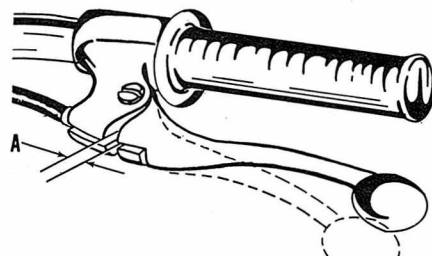
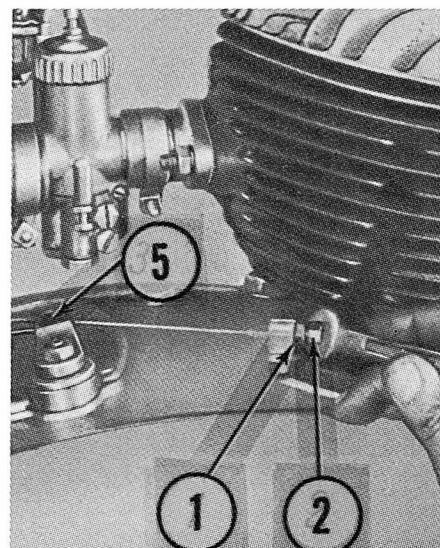

Fig. W5—Clutch hand control lever should have 0.08-0.012 in. free play at A. Refer to text for adjustment procedure.
Fig. W6—Clutch adjustment is usually accomplished at cable adjuster (2). Clutch control arm is shown at (5) and adjuster locknut at (1).
**CLUTCH CONTROL.** Clutch control hand lever should have 2-3 MM (0.08-0.12 in.) free play at (A—Fig. W5). Adjustment is normally accomplished at cable adjuster (2—Fig. W6). If cable adjuster (2) is nearly screwed
out of adjuster block, additional adjustment is provided at clutch adjusting screw (3—Fig. W7) located under cover on left side. Adjustments are locked by nuts (1—Fig. W6 and 4—Fig. W7).